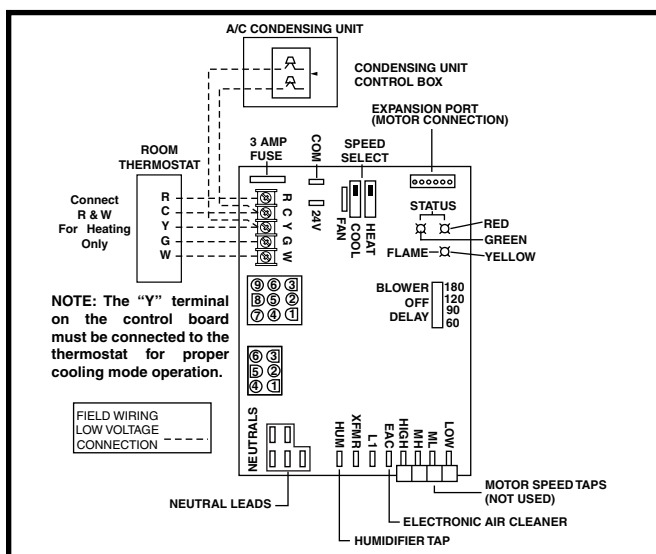

Figure 22. Low Voltage Field, Four-wire Heating/Cooling Applications
- The thermostat must be installed according to the instructions supplied by the thermostat manufacturer. Low voltage connections (24 VAC) from the thermostat are wired to the terminal strip on the integrated control in the furnace. Figure 22 \(page 24\) contains the proper connections for heating only (two-wire) and heating/cooling (four-wire) applications. Recommended minimum wire gauge for thermostat wiring is shown in Table 5, \(page 24\).
The operating sequences for the heating, cooling, and fan modes are described below. Refer to the field and furnace wiring diagrams: Figure 22 \(page 24\) and \(Figure 28 \(page 34\)\).